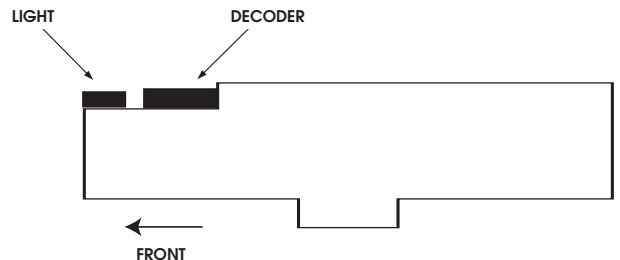

Fig. 2
- Your decoder and motor are now ready to be installed into the Track Master frame (Fig. 2). With the right mainframe laid out in front of you (front to your left) install the motor with the ORANGE wire on the bottom and GRAY wire on the top. Guide the ORANGE wire around the right side of the motor so that it lines up with the groove in the right mainframe. Inspect brush holders and wires to be sure they are not touching frame.